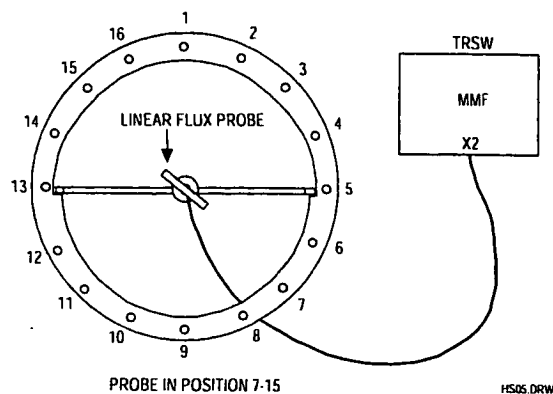

Figure 27 Frequency adjustment mode 7 - 15
13. Position the flux probe in position 7-15 (Figure 27).